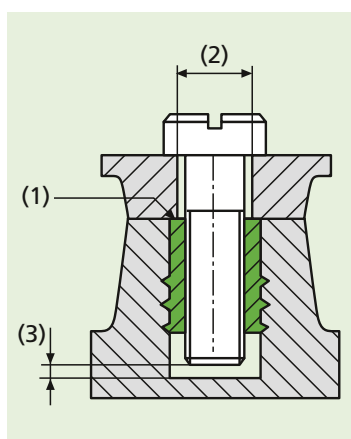

Fig. 18
The part requiring fastening should be flush with the threaded insert, see (1, fig. 18). For this reason, **the bore-hole (2) should be closely dimensioned and not countersunk**. The B-Lok® press in flush into the formed part (1).